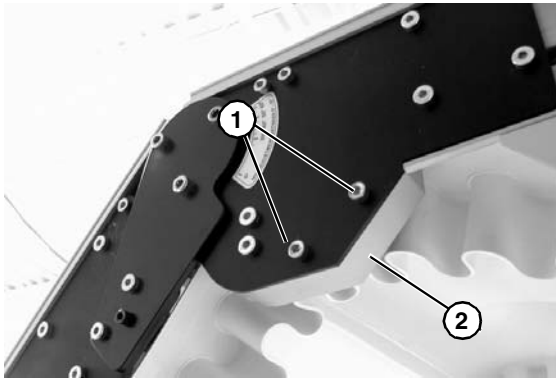

Figure 89
1. Remove screws (**Figure 89, item 1**) on the worn bearing side of the knuckle and remove guard (**Figure 89, item 2**).
4. Replace guard (**Figure 89, item 2**) and secure with screws (**Figure 89, item 1**) on both sides of knuckle and remove guard.